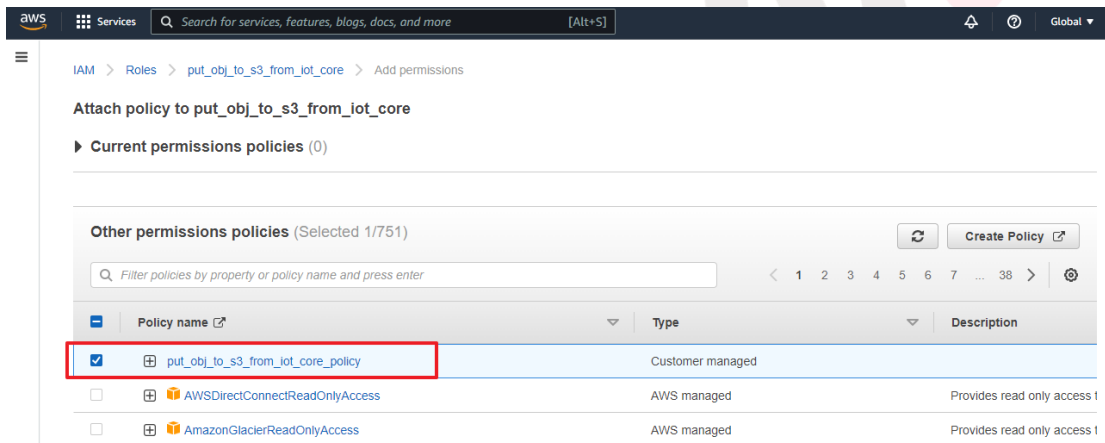

Figure 4-152 Select Policy to attach to Role
15. Upon entering the screen to choose the Policy, select the desired Policy to attach, and then click on "Attach policies" located at the bottom right corner of the webpage (as shown in Figure 4-152).